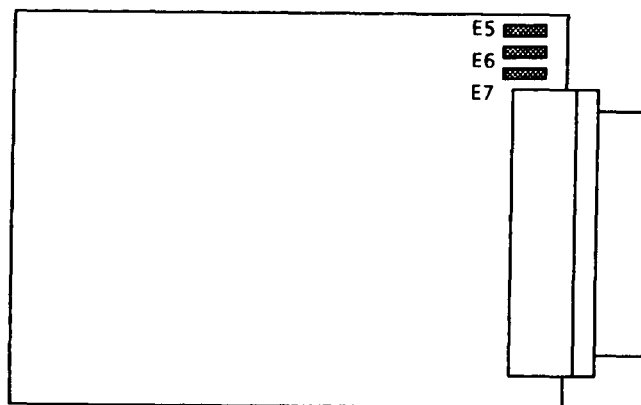

FIGURE 2-7 HDD Jumper Straps
2. Check that the jumper straps are set correctly as shown in figure 2-7 and described in table 2-9.